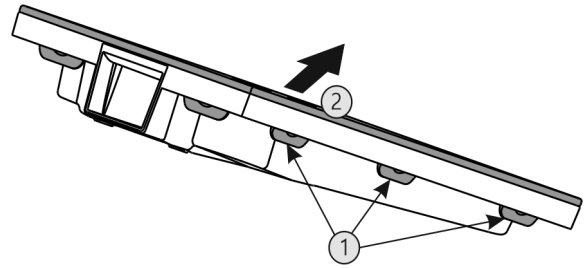

Fig. 59
- Press all lugs Fig. 59 (1) in succession and remove the lid Fig. 59 (2).